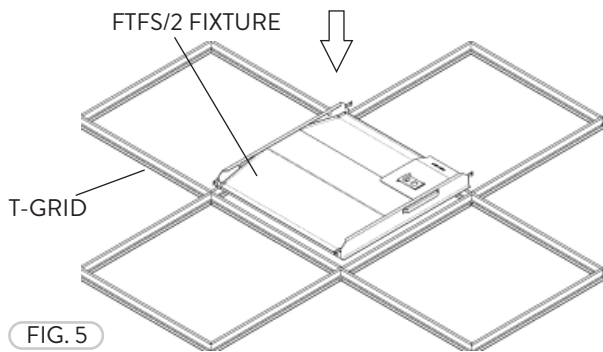

FIG. 5
- 3 Now with the four tabs set into position the FTFS/2 fixture is ready to lay onto the T-Grid (Fig. 5).